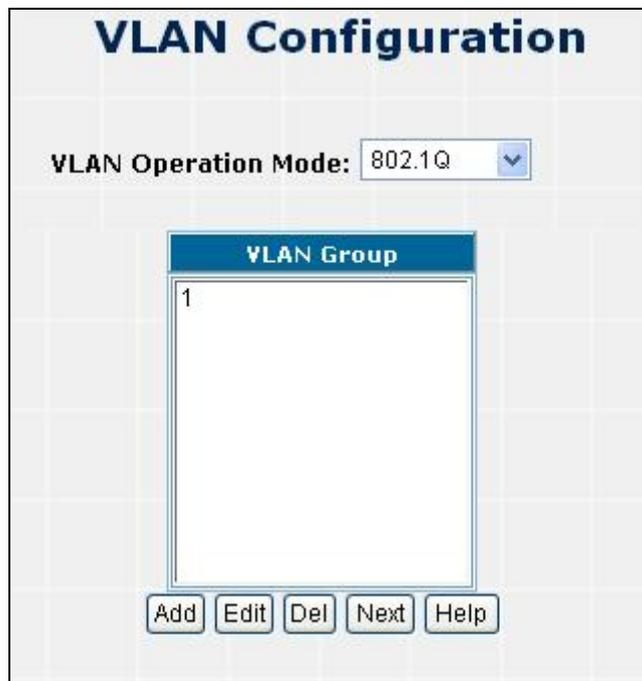

Figure 4-3-3 802.1Q VLAN interface
7. Please press “Back” for return to VLAN configuration screen to add other VLAN group, the screen in Figure 4-3-3 appears.